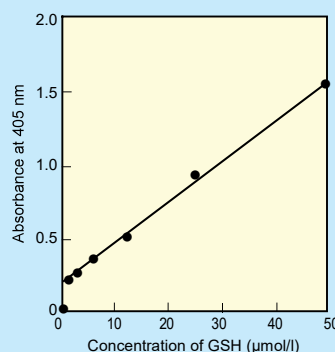

Fig. 3 Determination of the concentration of total glutathione
5. Determine concentrations of total glutathione in the sample solution using a GSH calibration curve(Fig. 3).